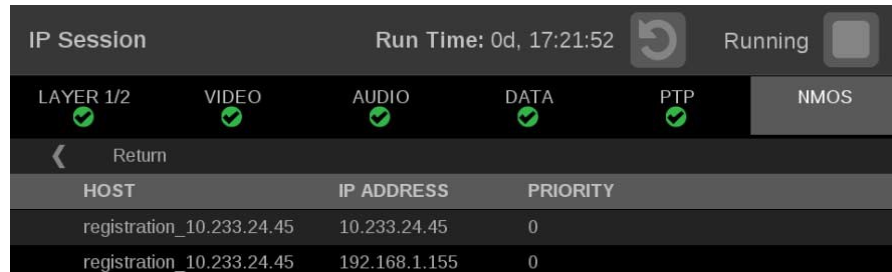

Figure 149: Registration Server List display
- **Registration server:** Shows the **Host Name** and **IP Address** of the registration server. (See Figure 149.)